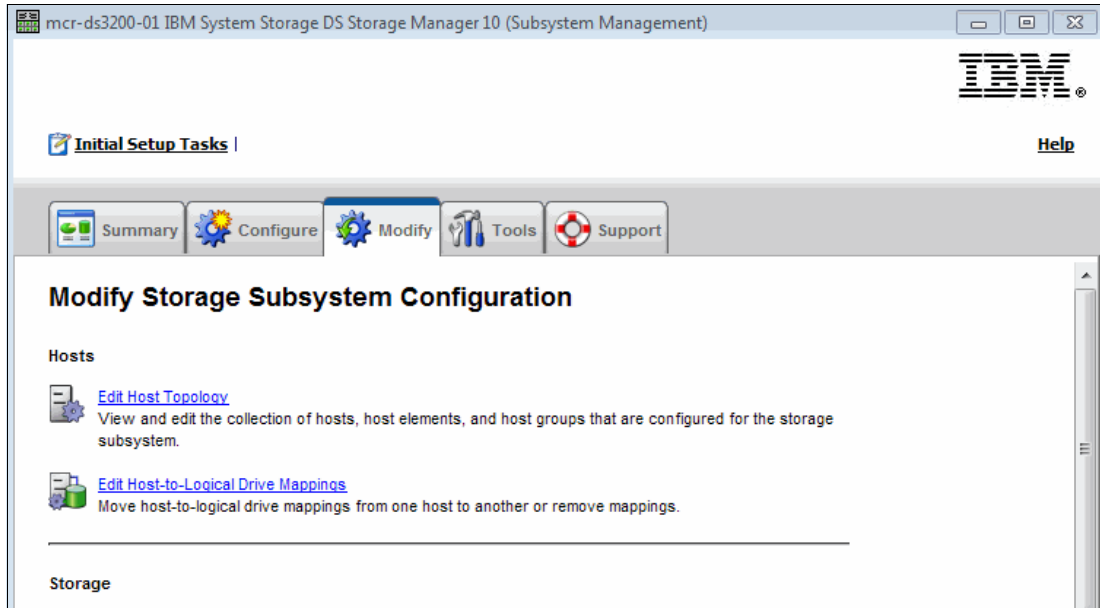

Figure 6-21 Editing host/volume mappings for IBM DS3200
- From the Subsystem Management summary window, click the **Modify** tab and select **Edit host-logical-drive mappings**, as shown in Figure 6-21.